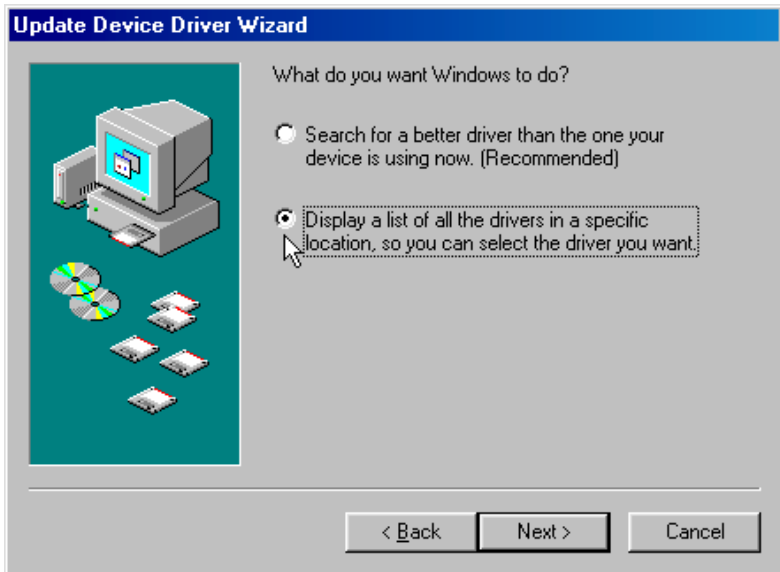

Figure 27. Install Hardware Device Drivers
- 1 When you see the window in Figure 27, you **MUST** select “Display a list of known drivers for this device so that I can choose a specific driver.”